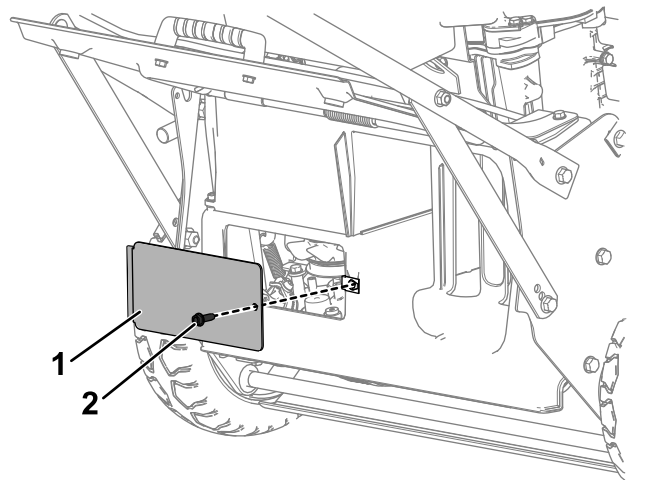

Figure 36
6. Remove the rear-viewing window, located under the rear-discharge deflector, by removing the bolt holding it in place (Figure 36).